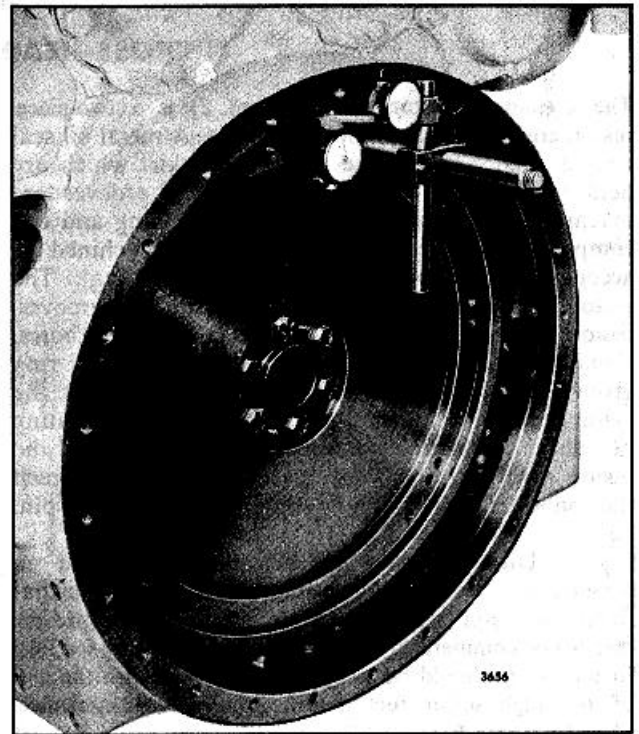

Fig. 5. Checking Flywheel Housing Concentricity
- a. Refer to Fig. 5 and thread the base post J 9737-3 tightly into one of the tapped holes in the flywheel. Then assemble the dial indicators on the base post.